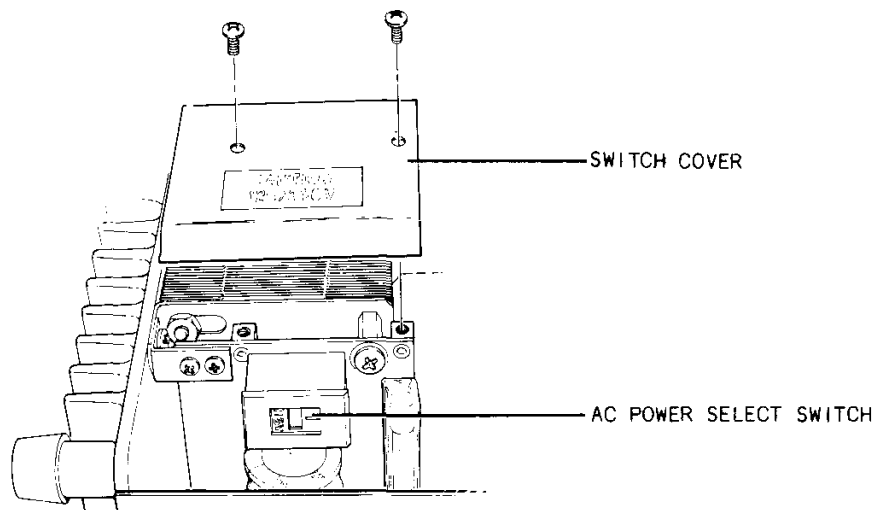

Figure 2-3 AC Power Select Switch Location
THE FM/AM-1200S/A IS SHIPPED FROM FACTORY WITH THE AC POWER SELECT SWITCH IN THE 115 VAC POSITION. DO NOT APPLY EXTERNAL POWER ABOVE 115 VAC UNLESS SWITCH IS POSITIONED TO 230 V (REF. FIGURE 2-3) (REF. APPENDIX A, SPECIFICATION A-14).
The FM/AM-1200S/A Communications Service Monitor is shipped with the AC Power Select Switch (Ref. Figure 2-3) positioned to "115 VAC". If it is necessary to operate FM/AM-1200S/A using 220 VAC, the AC Power Select Switch must be positioned to "230 VAC" prior to the application of electrical power. The procedure to reposition this switch is as follows:
3. Remove two screws from Switch Cover Plate (with CAUTION placard) to expose AC Power Select Switch (Ref. Figure 2-3).
4. Verify position of switch and, if necessary, slide switch indicator until desired power rating is visible (Ref. Figure 2-3).
5. Reinstall Cover Plate (Ref. Figure 2-3).